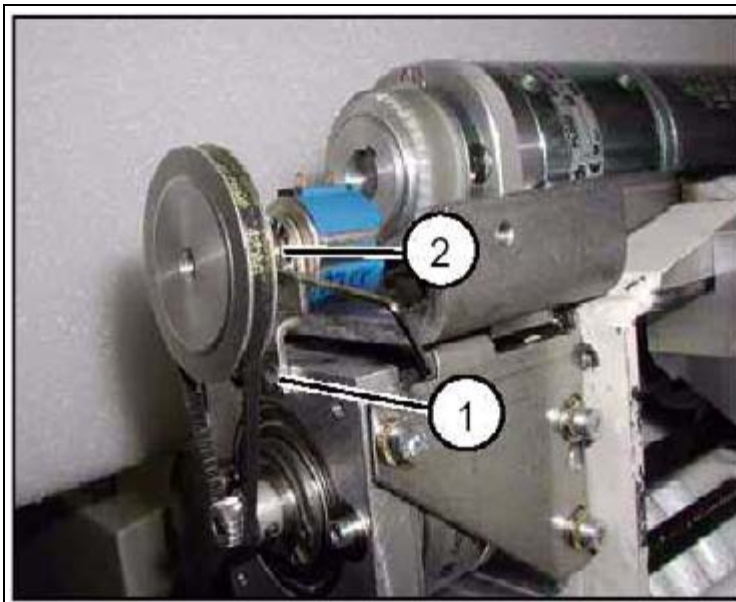

Fig. 34: Belt of the actual value potentiometer 1
5. Loosen the two fastening screws of the actual value potentiometer at the front of the coupling unit (1/Fig. 34 / p. 76).
8. Unscrew the Allen screw of the large pulley and remove the pulley from the actual value potentiometer (2/Fig. 34 / p. 76).
Prior to setting the actual value potentiometer, the C-arm must be in the orbital -95° position (the orbital limit switch on the tube side is actuated). If this is not the case, loosen the Allen screw of the large pulley before moving the C-arm ((2/Fig. 34 / p. 76)) to prevent overturning of the actual value potentiometer.
2. Loosen the Allen screw of the large pulley (2/Fig. 34 / p. 76).